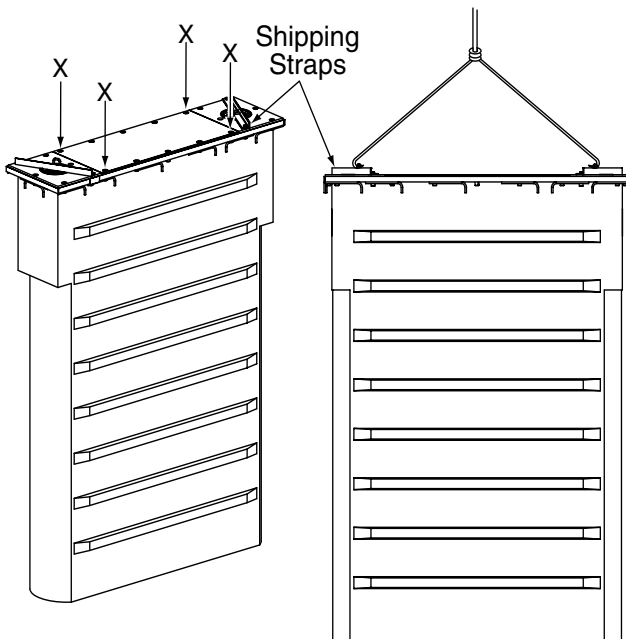

Fig. 3
A. Chain hoist must have capacity of 2,500 lbs. with a clear swing of 9' 0". Rig sling for unit, attaching to the shipping strap, Fig. 3, and lower assembly into hole. Center lift and be sure lift containment inlet is located as shown in Fig. 1.
C. Remove and retain (4) 1/2"-13NC HHCS (marked with X, Fig. 3). Insert 1/2" Threaded Rods x 18" lg. into the holes and secure in place using 1/2" flat washers and nuts, Fig. 4.